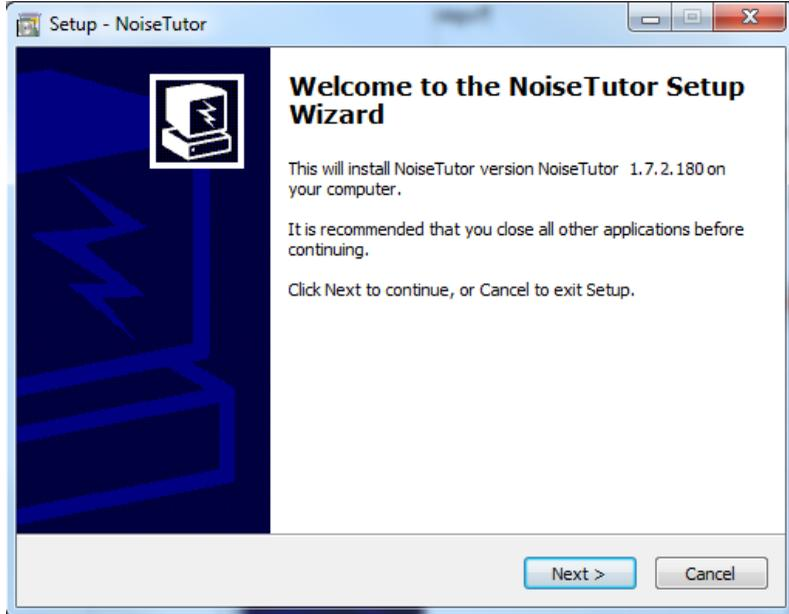

FIGURE 2-17 Configuration Tool Installer - Welcome
Step 3 On the NoiseTutor Configuration Tool Setup Wizard, Click **Next**, as shown in FIGURE 2-17.